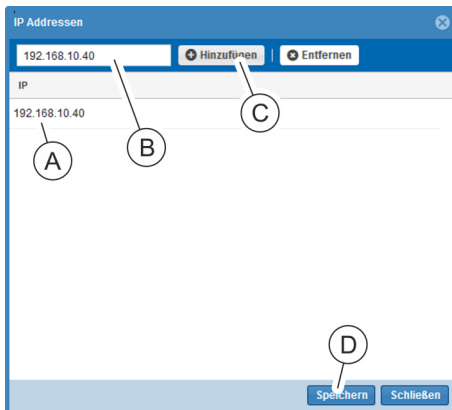

Fig. 48: "IP addresses" window
⇒ The “IP addresses” window opens (Fig. 48).
18. Enter an IP address in the text box (Fig. 48/ⓑ) and use the 'Add' button (Fig. 48/ⓒ) to add it to the list (Fig. 48/ⓐ).
19. After completing the entry, close the window using the 'Save' button (Fig. 48/ⓓ).